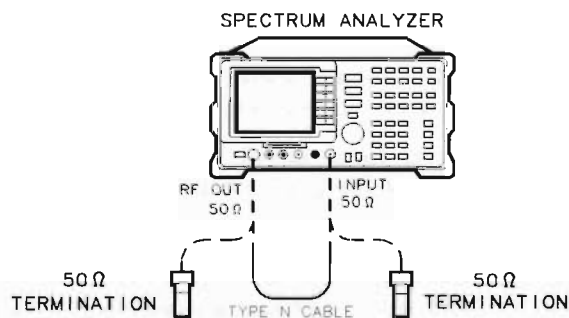

Figure 2-99. Tracking Generator Feedthrough Test Setup
1. Connect the Type N cable between the RF OUT $50\ \Omega$ and INPUT $50\ \Omega$ connectors on the spectrum analyzer. See Figure 2-99.